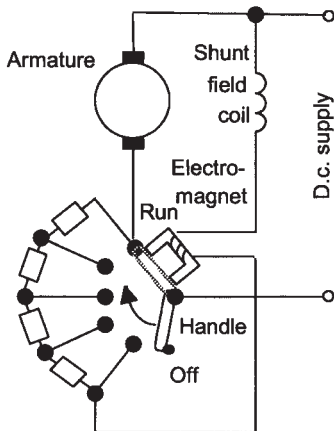

Figure 19.9 Starter
D.c. motors develop a torque at standstill and so are self-starting. They do, however, require a starting resistance to limit the starting current. The starting current $i = (V - E)/R$ and since there is initially no back e.m.f. E to limit the current the starting current can be very large. Figure 19.9 shows the form of a d.c. motor starter in which an external resistance is inserted when the motor is started up and then gradually taken out as the speed increases. The handle is then held in the run position by the electromagnet, this being energised by the current through the field coil. If the field coil becomes disconnected, the electromagnet becomes de-energised and a spring returns the handle to the off position.